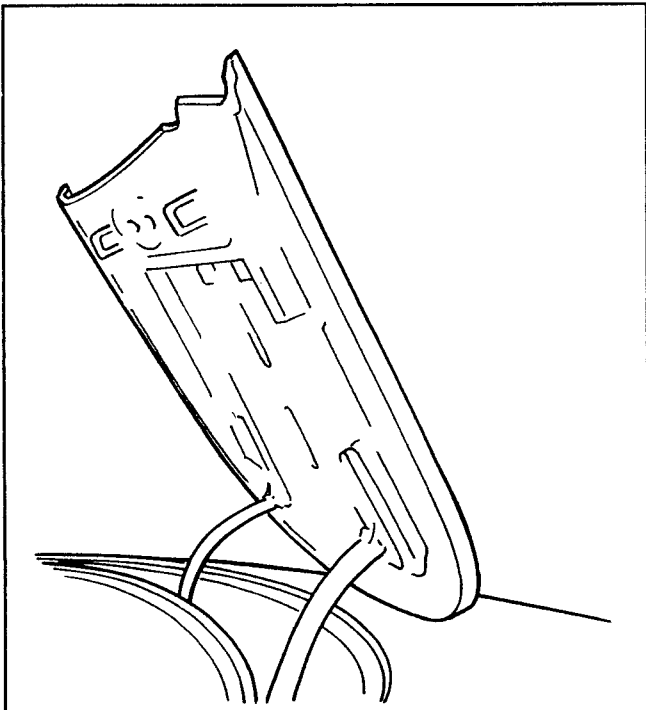

Figure 16. Open Stowage Panel
2. Open the stowage panel to the hold-open position (Fig. 16).